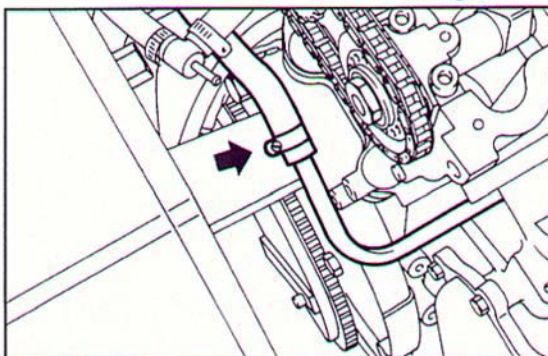

Fig. 319 ▼
- collegare le tubazioni uscita liquido refrigerante dai turbocompressori e stringere le fascette (**Fig. 319**);
- connect the coolant outlet pipes from the turbochargers and fasten the clamps (**Fig. 319**);